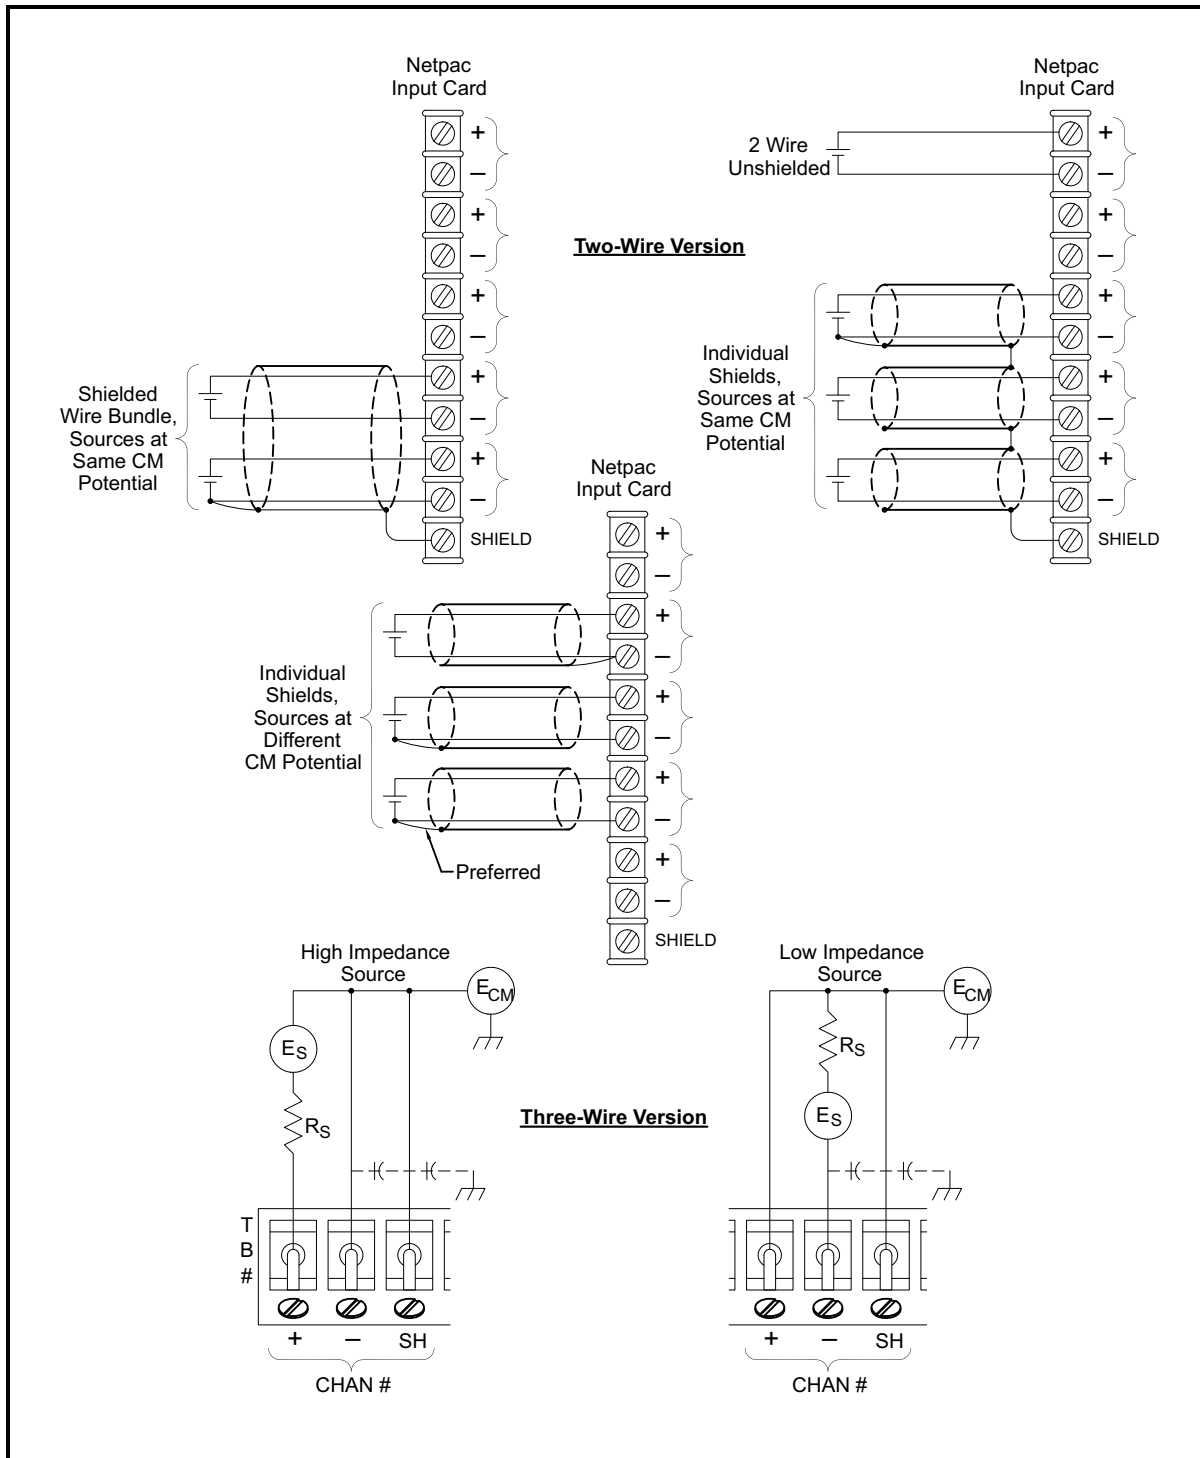

Figure 17: Voltage Connections
**Connections.** See Figure 17 on page 26 for voltage connection diagrams. Use the two-wire multi-purpose input card whenever the input signal is 10 VDC or less. Connect the sensor lead with the more positive potential to the (+) terminal and the lead with the less positive potential to the (–) terminal. If you reverse these leads, the system measures the Input signal indicating the opposite polarity.